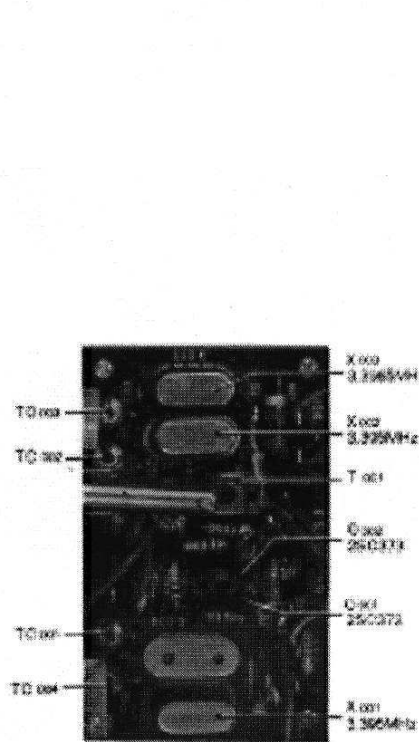

Fig. 21 Carrier Unit
### (1) Carrier oscillator (UC1405J) Refer to Fig. 21.